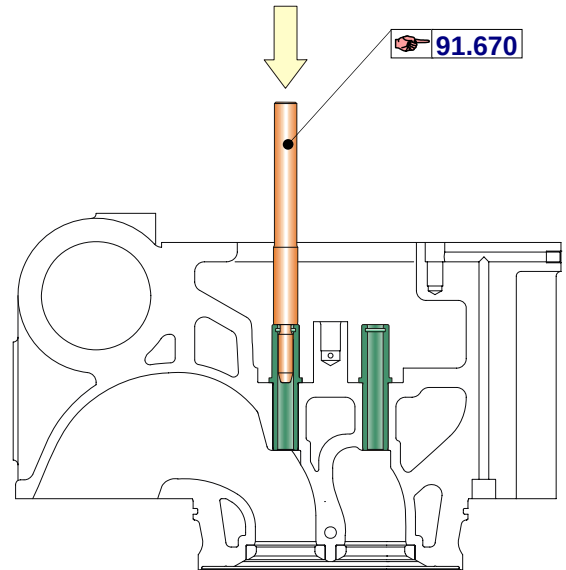

Fig. 4 Mounting of valve guide
5. Fit valve guide by means of the tool  91.670 with hammering softy on the tool as shown in fig 4.